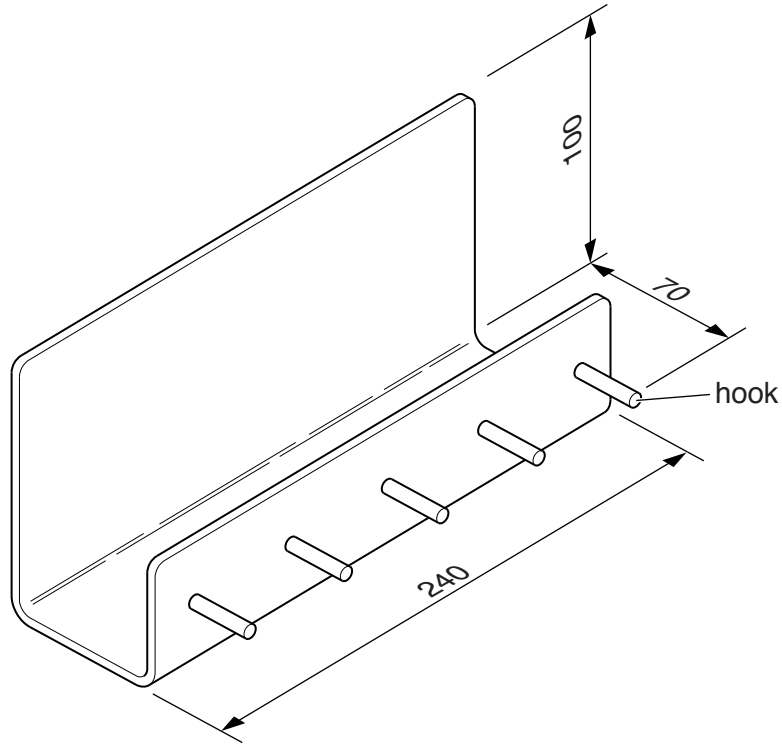

Fig. 10
- 11** Fig. 10 shows a basic design for a wall-mounted letter and key rack made from 4 mm thick acrylic sheet.